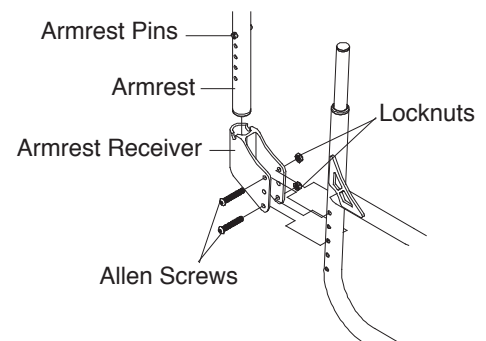

Figure 30
2. Remove the two Allen Screws pass through the frame and the armrest receiver. See Figure 30.